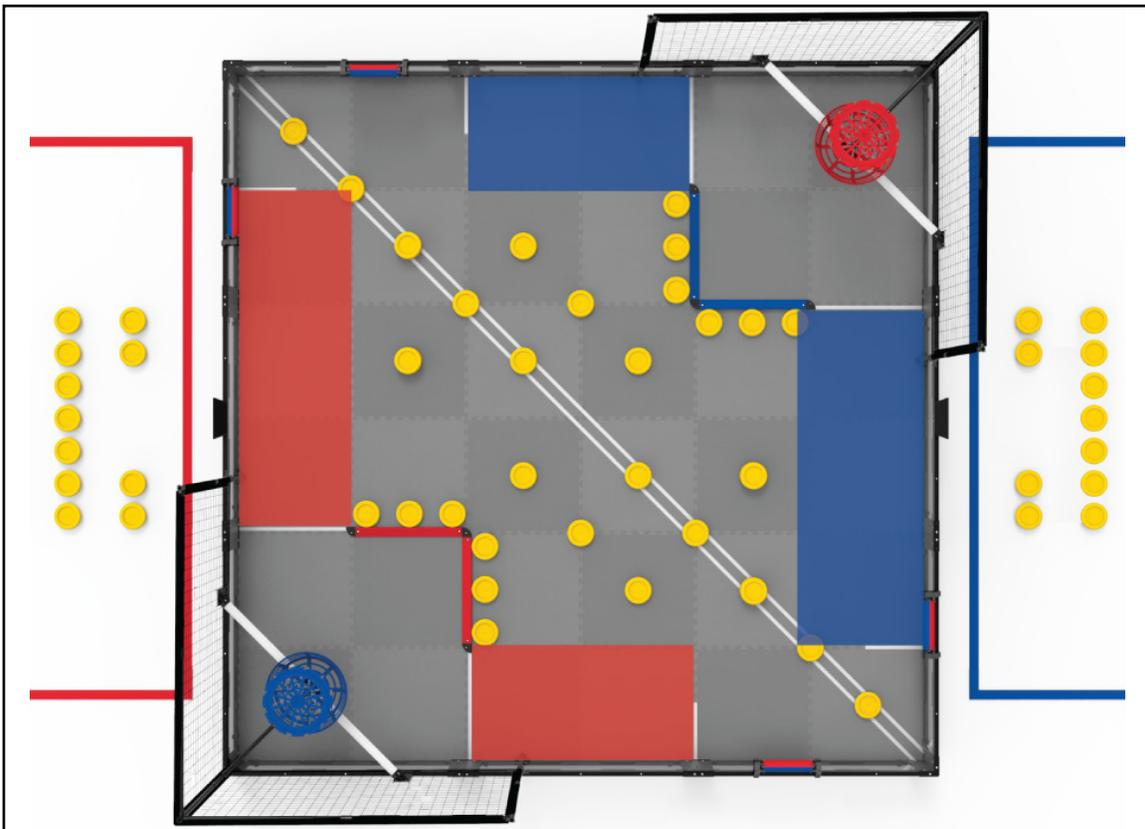

Figure 19: Overhead view of the field, highlighting legal starting tiles for each Alliance
- a. Contacting at least one (1) of the gray foam field tiles adjacent to the field perimeter that are between a pair of *Starting Lines* on their *Alliance's* side of the *Autonomous Line*. See Figure 19.
- f. Contacting no more than two (2) *Preloads*. See rule <SG2>.
- d. In the vertical projection of at least one (1) of the gray foam tiles adjacent to the field perimeter that are between a pair of *Starting Lines* on their *Alliance's* side of the *Autonomous Line*. See Figure 19.